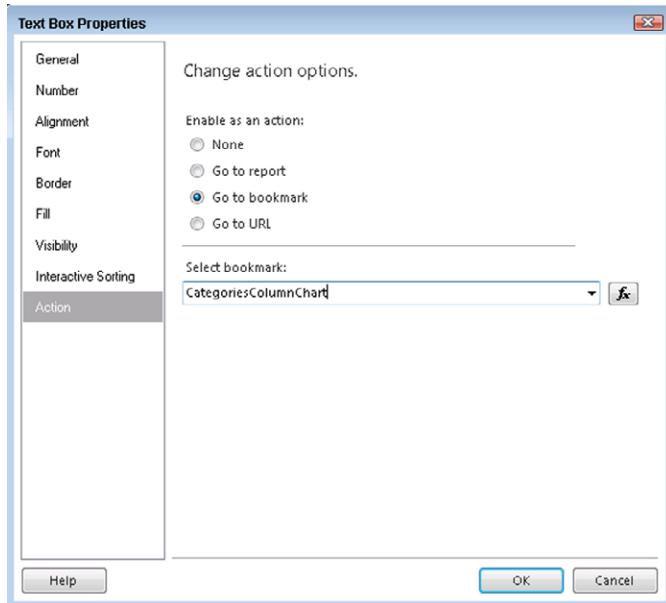

Figure 5-8
5. Select Go to bookmark and type the same name you created in Step 3 when you initially created the bookmark. The text here is case sensitive so ensure it is exactly how you typed it in Step 3. Figure 5-8 shows this step completed. Click OK once complete.